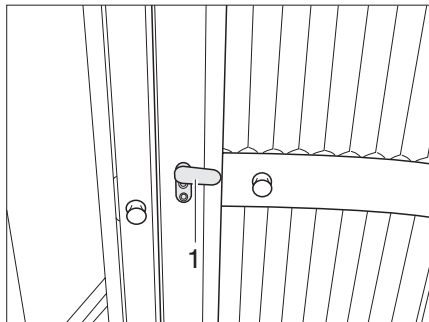

Fig. 184 Vario toilet, toilet door
- Set the latch (Fig. 184,1) on the toilet entrance door vertically and fold out the inner section of the toilet entrance door.
- Turn the inner part of the toilet door and to close, place the latch (Fig. 184,1) in a horizontal position.